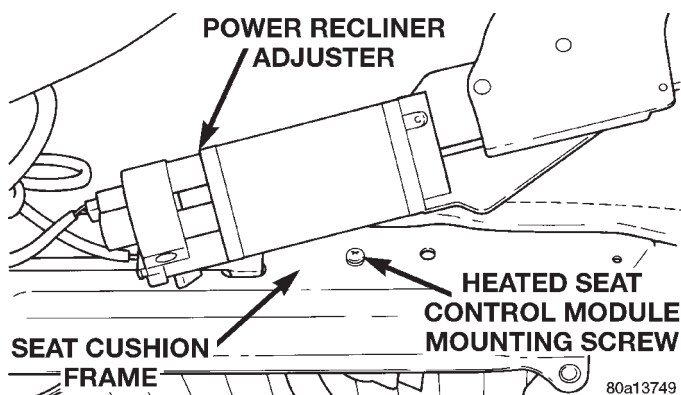

Fig. 5 Power Recliner Lower Bracket Remove/Install
(1) Move the power seat adjuster to its upper-most and forward-most stop positions.
(2) Remove the three screws securing the outboard seat cushion side shield to the seat cushion frame and pull the shield away from the seat so that the power recliner adjuster lower bracket can be seen.
(3) If possible, adjust the seat back with the power recliner switch so that both of the two bolts in the power recliner adjuster lower bracket can be accessed.
(4) Disconnect and isolate the battery negative cable.
(5) Remove the two bolts securing the power recliner adjuster lower bracket to the seat cushion frame (Fig. 5).